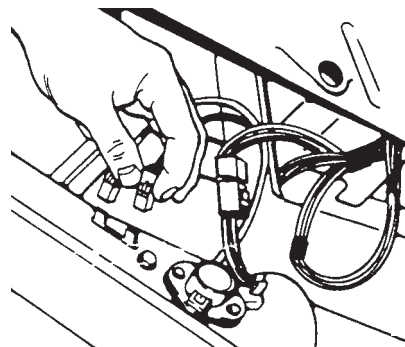

Fig. 4-20
2. Remove the three (3) blower housing screws.
4. Disconnect wires from thermal fuse, operating thermostat and bias heater. (Fig. 4-20)